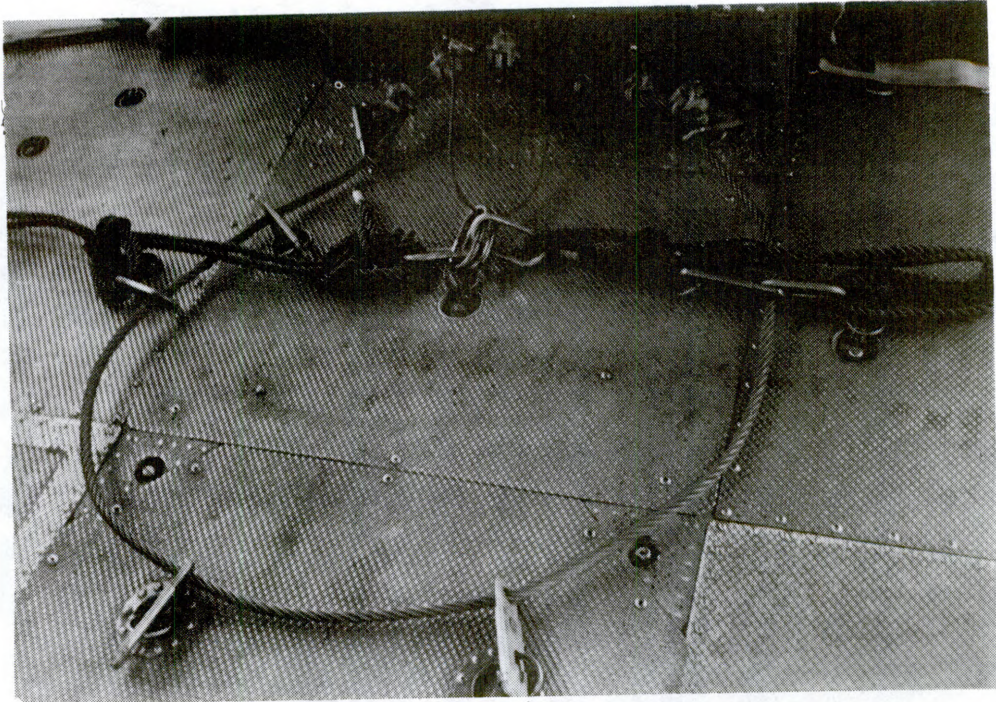

Figure 3. Rappel rope connection in the helicopter.
7. The rappelling rope is connected to the floating safety ring and the donut ring in the following order (figs. 3 and 4).